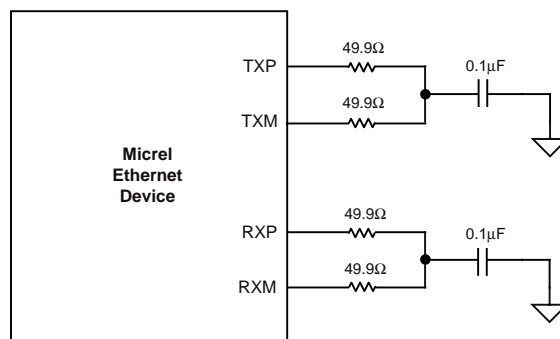

Figure 5. Termination of TX and RX Differential Pairs
- Place termination resistors for the TX and RX differential pairs close to the Micrel chip. See Figure 5.